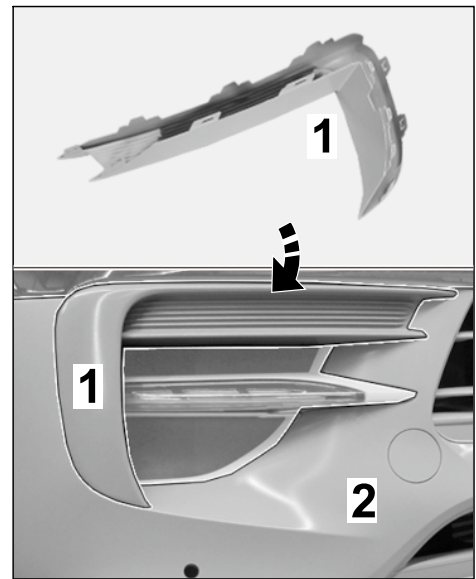

Figure 13
2.7.5 Fit painted trim (left/right) in the front apron on the relevant side from the outside (⇒ *Figure 13*).